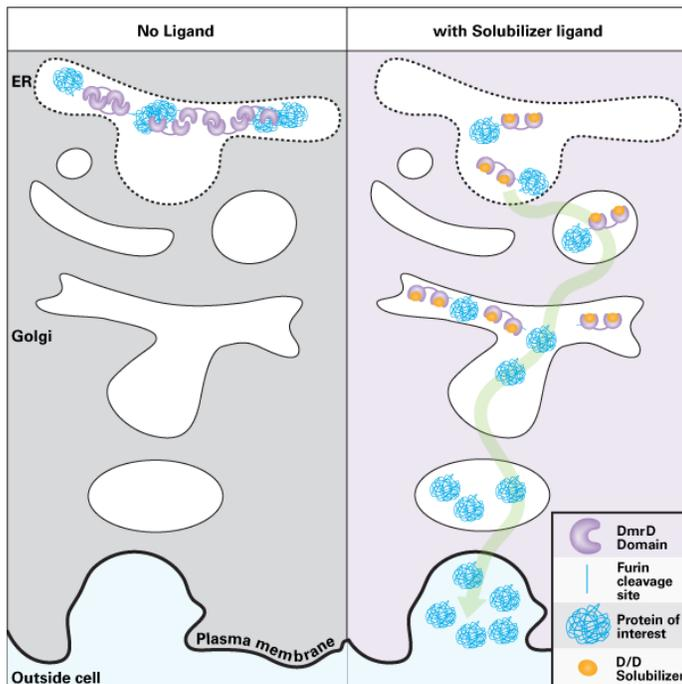

Figure 3. Induction of protein secretion by addition of D/D Solubilizer.
- induce protein secretion following accumulation of engineered proteins in the endoplasmic reticulum (Figure 3).
The Lenti-X iDimerize Reverse Dimerization System can be used to turn *on* a process that is *inactivated* by oligomerization. A key example is the regulation of protein secretion through controlled aggregation in the endoplasmic reticulum (ER). The use of this system to control secretion (Figure 3) involves the addition of DmrD domains to a secreted protein of interest, i.e., between the signal sequence and the mature protein (Rivera *et al.*, 2000). The resulting fusion proteins localize and accumulate in the ER as aggregates. Addition of the D/D Solubilizer dissolves the aggregates and allows the protein to be exported through the secretory apparatus. To ensure secretion of the authentic protein, a cleavage site for the specific endopeptidase furin is interposed between the DmrD domains and the protein of interest. Since endogenous furin is exclusively expressed in the trans Golgi, the fusion protein will be processed as it traverses this compartment, resulting in the secretion of the correctly processed protein (as well as the separate DmrD moiety). Thus, this system allows ligand-dependent control of secretion.